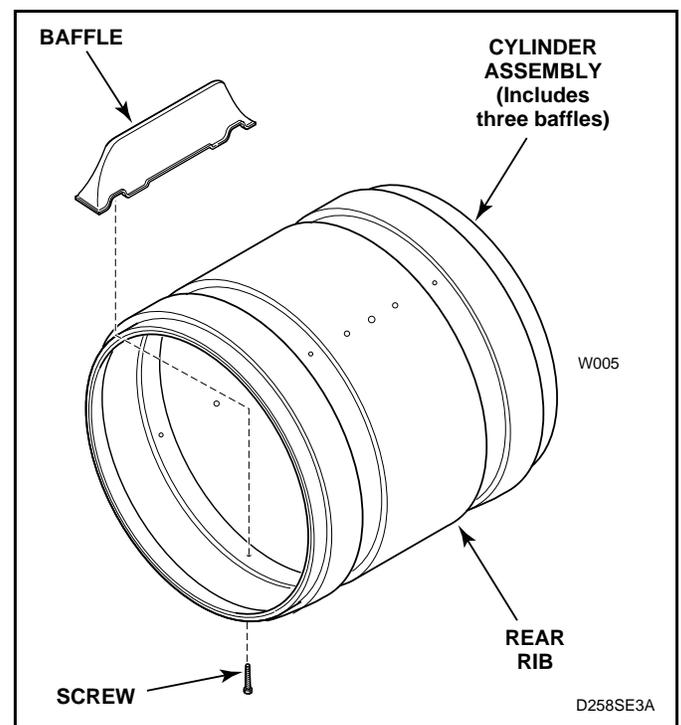

Figure 51
NOTE: When reinstalling belt, be sure belt is properly installed on motor and idler pulleys, and is on the correct side of the idler lever. See *Figure 42*. Belt must be positioned around center section of cylinder approximately three inches ahead of rear rib on cylinder. See *Figure 51*. After installing belt, manually rotate cylinder counterclockwise to check that belt is properly aligned.
NOTE: When reinstalling belt, be sure belt is properly installed on motor and idler pulleys, and is on the correct side of the idler lever. See *Figure 42*. Belt must be positioned around center section of cylinder approximately three inches ahead of rear rib on cylinder, with the ribbed surface of the belt against the cylinder. See *Figure 51*. After installing belt, manually rotate cylinder counterclockwise to check that belt is properly aligned.
- Baffles – Remove screws holding baffles to cylinder. See *Figure 51*.
NOTE: When reinstalling belt, be sure belt is properly installed on motor and idler pulleys and is on the correct side of the idler pulleys. See *Figure 42*. Belt must be positioned around center section of cylinder approximately three inches ahead of rear rib on cylinder with the ribbed surface of the belt against cylinder. See *Figure 51*. After installing belt, manually rotate cylinder counterclockwise to check that belt is properly aligned.
NOTE: When reinstalling belt, be sure belt is properly installed on motor and idler pulleys and is on the correct side of the idler pulleys. See *Figure 42*. Belt must be positioned around cylinder approximately three inches ahead of rear rib on cylinder with the ribbed surface of the belt against the cylinder. See *Figure 51*. After installing belt, manually rotate cylinder counterclockwise to check that belt is properly aligned.